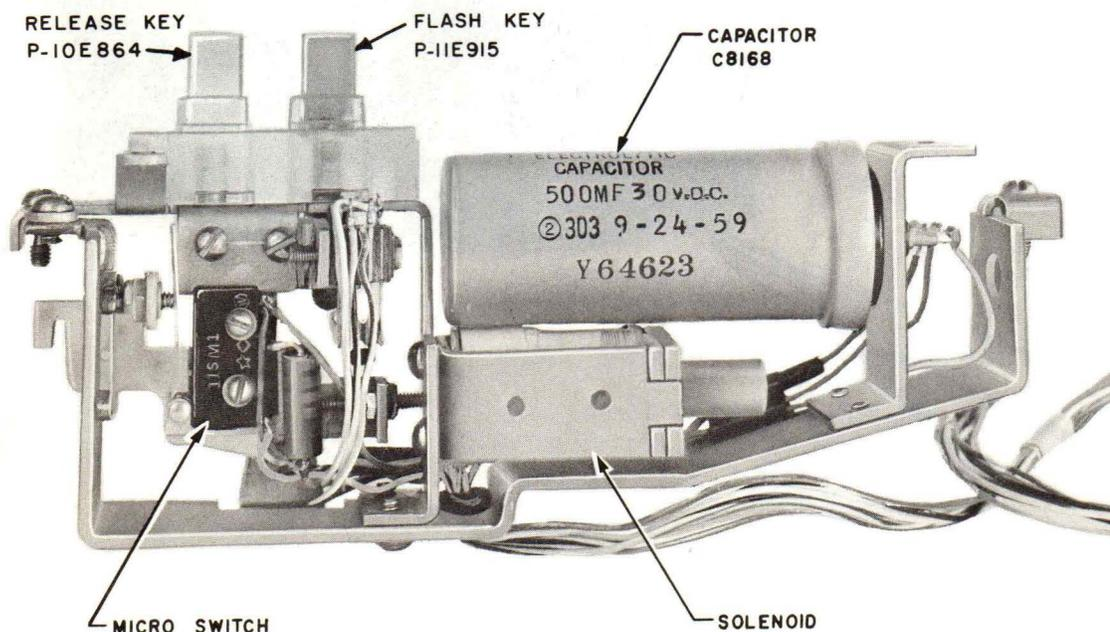

Fig. 2 - 622A Key, Cover Removed
3.02 The 622A key module (Fig. 2) is the same basic design as the 621A with these exceptions: A solenoid,\* micro-switch, and 500MF capacitor have been added. The 622A key provides electromechanical boosting to the pivot bar action in a 400-type mounting. This booster action minimizes the finger pressure required to release any locked key in a large field of associated 598- or 599-type keys.